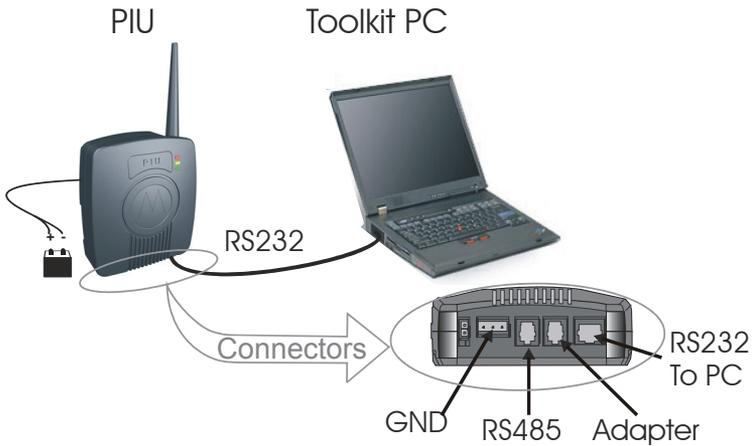

Figure 24
1. Connect the PIU unit RS232 port to the computer with the FTN6597A cable (see Figure 24).